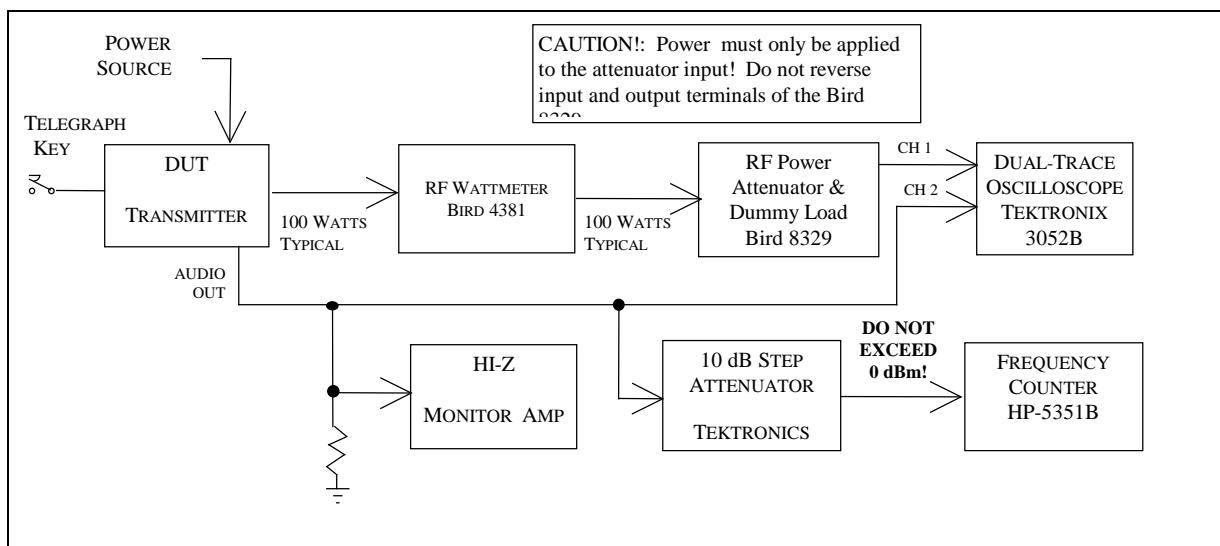

Fig. 4-10 — Keyer Speed and Sidetone Frequency Test Hook-up
4.10.2 Test hook-up (See Fig. 4-10)